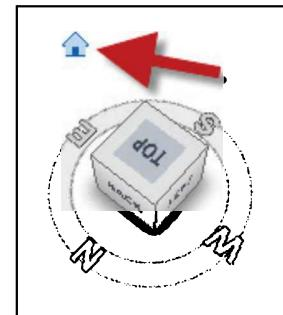

FIGURE 12-3.5 Home icon next to ViewCube; Home icon is only visible when cursor is over ViewCube.
15. Click the *Home* icon via the **ViewCube** to reset the view (Figure 12-3.5).